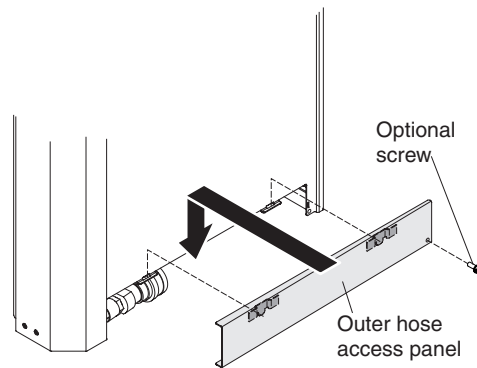

Figure 29. Installing the outer hose access panel
- c. (Optional) Secure the outer hose access panel to the heat exchanger with an M4 screw (see Figure 29).